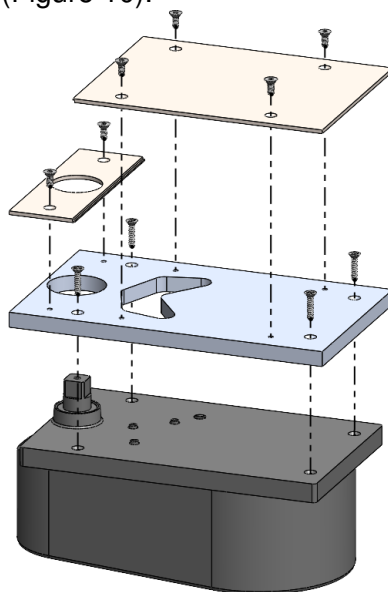

Figure 10:
7. Install cover plates to closer (Figure 10).